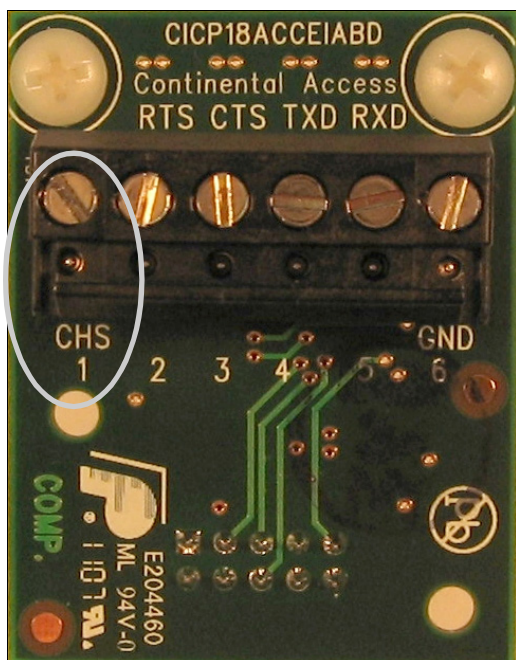

Fig. 6: Chassis ground terminal.
6. Connect the other end of the ground wire to the EIA/RS-232 Module terminal strip marked "CHS 1" (circled below in Fig. 6). The letters "CHS" represent the "chassis" connection. **IMPORTANT:** Use care when tightening the terminal screw--support the motherboard with your hand while exerting torque on the screw.
7. Make your additional connections to TX, RX and ground, as required. All terminals are clearly marked, as displayed in Fig. 6.